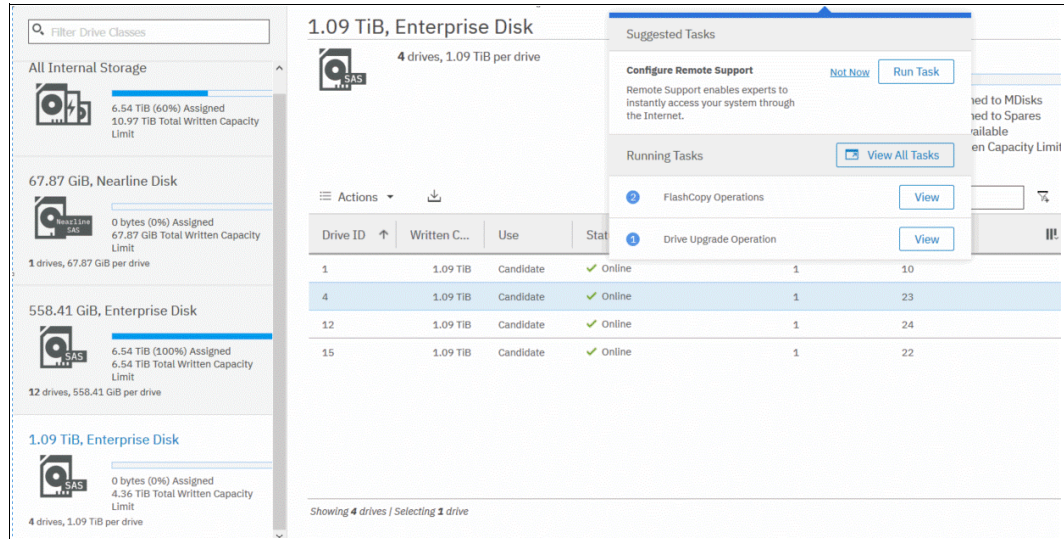

Figure 13-30 Selecting Drive Upgrade running task view
- With the drive upgrades running, you can view the progress by clicking the **Tasks** icon and clicking **View** for the Drive Upgrade running task, as shown in Figure 13-30.